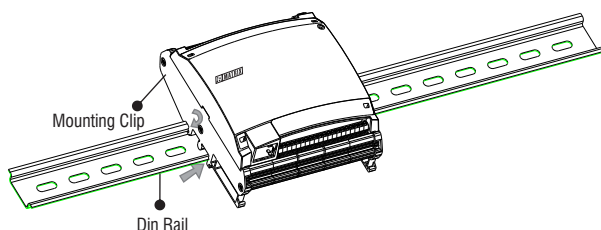

Figure 3: Mounting the COSEC ARC\*
- Lock the upper edge of the clip against the upper ridge of the rail as shown in Figure 3.
- Press the lower edge of the clip into the lower ridge of the rail, until it locks with a “click” sound (Figure 3).